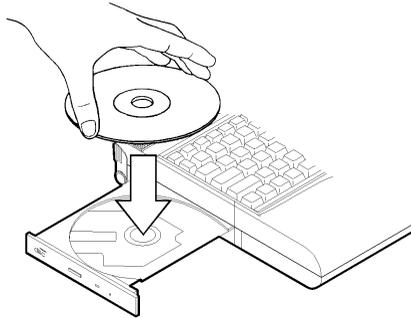

Figure 2-14
- 4** Carefully place the CD onto the disc tray with label-side facing up. Some pressure may be needed to press the CD to firmly fit onto the disc tray (Figure 2-14).